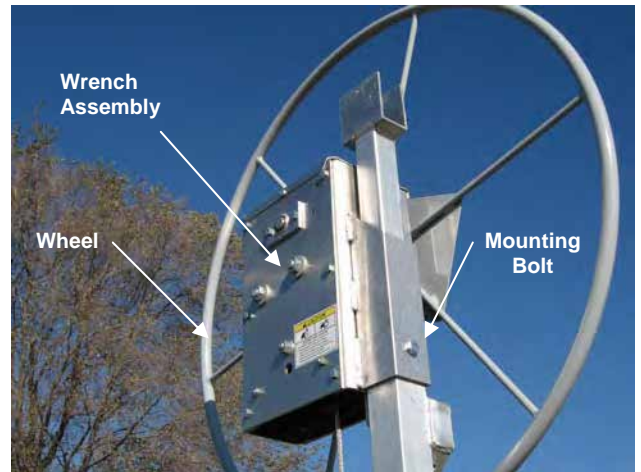

FIG. 5
1. Place winch onto leg assembly. See FIG. 5.